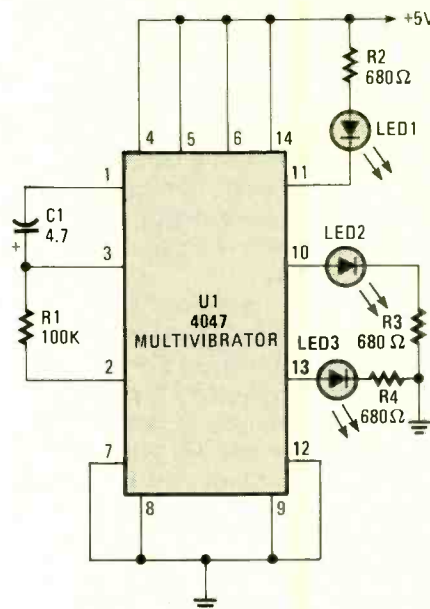

Fig. 3. In this circuit, the 4047 is configured as a free-running, Astable Multivibrator (oscillator), and offers three different outputs.
**Astable Multivibrator.** In our third circuit (see Fig. 3), the 4047 is configured as a free-running, astable-multivibrator (oscillator) circuit. That configuration, offers three different outputs. The output pulses at the Q and  $\bar{Q}$  output (pins 10 and 11, respectively) are the same as in